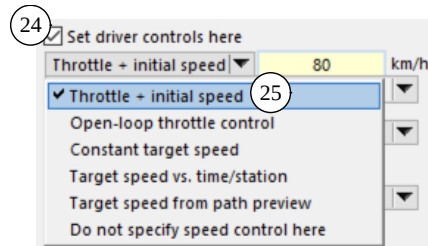
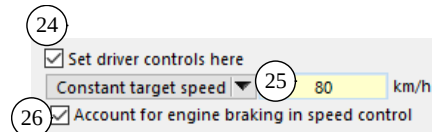

Figure 19. Options for speed control.
Figure 20. Extra controls shown for constant target speed setting.
- ②④ **Set driver controls here.** Check this box to view more options for specifying driver/rider control data for a run. The following controls are visible only when this box is checked. This control is visible only when **Show more options on this screen** ③ is checked.
- ②⑤ Speed / Acceleration option. This drop-down list has options for controlling the vehicle speed (Figure 19). If the selected option implies that more information is needed, then a yellow field and/or blue link are also shown.
If the selected control involves target speed (i.e., a closed-loop controller), then a link is shown for connecting to a dataset in the appropriate library. If an open-loop control is selected, then a yellow field is used to set the initial speed and a link is shown for connecting to an open-loop throttle control dataset (Figure 19). If a constant target speed is selected, then a yellow field is shown for specifying that speed, along with a checkbox for accounting for engine braking in the controller ②⑥ (Figure 20).
Note The vehicle model has a closed-loop speed controller that can work with a target speed defined as a function of both time and station, or by previewing the target path and determining speed based on acceleration limits. The option shown in Figure 20 is a quick way to set the target speed to a constant value.